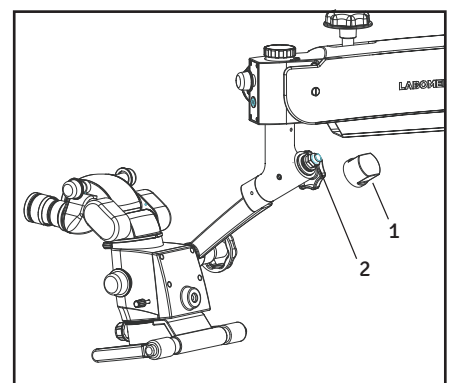

Fig 12
- A. Unscrew the black cap (see 1 in Fig. 12).
- B. Use a 19 mm wrench to turn the screw (see 2 in Fig. 12) to achieve the desired tension.
- C. Once the desired tension is achieved, screw on the black cap (see 1 in Fig. 12).